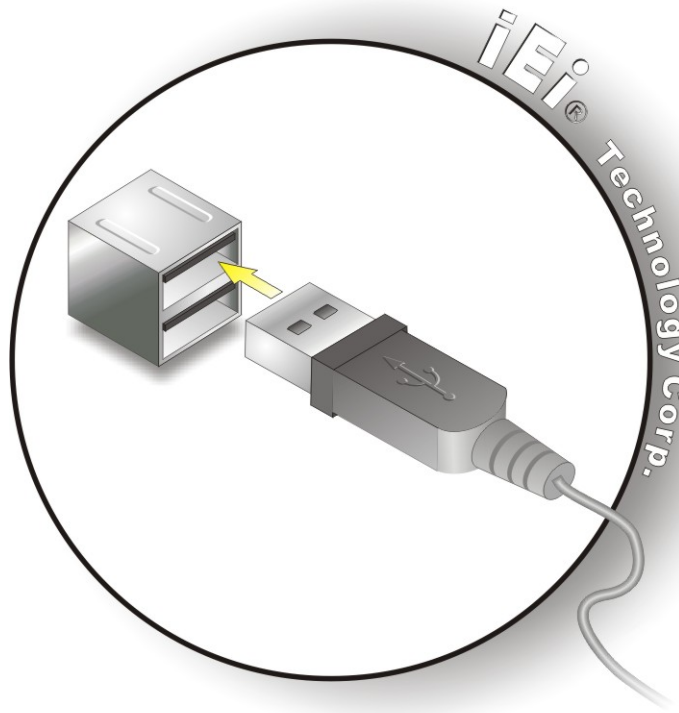

Figure 5-15: USB Connector
- Step 2:** Insert a **USB Series "A" plug**. Insert the USB Series "A" plug of a device into the USB Series "A" receptacle on the external peripheral interface. See **Figure 5-15**.